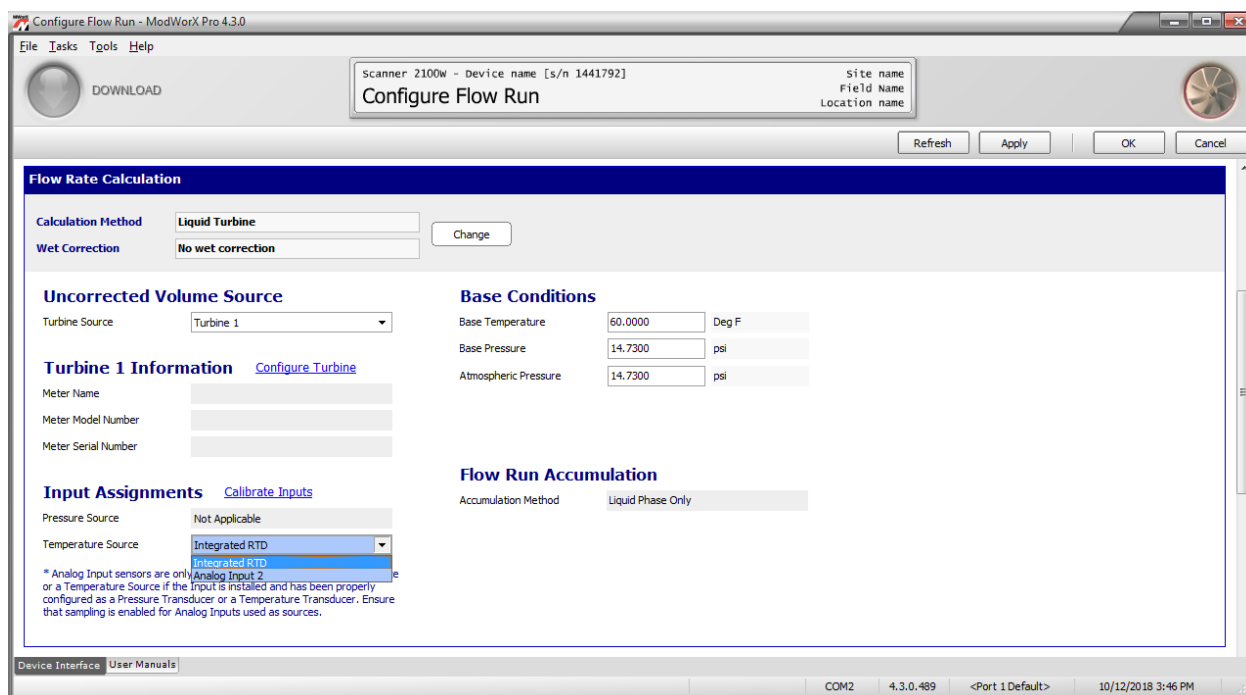

Figure 4.12
- Under Input Assignments, verify the pressure source and/or temperature source to be used. If measuring liquids, only a temperature source will be selectable (Figure 4.12, page 57). To calibrate the sensor inputs from this screen, click on the blue **Calibrate Inputs** hyperlink and follow the screen prompts.